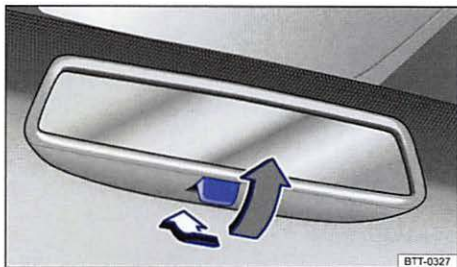

Fig. 80 Manually adjustable inside mirror.
- To adjust to non-glare visibility, move the lever so that it points backward ⇒ fig. 80.